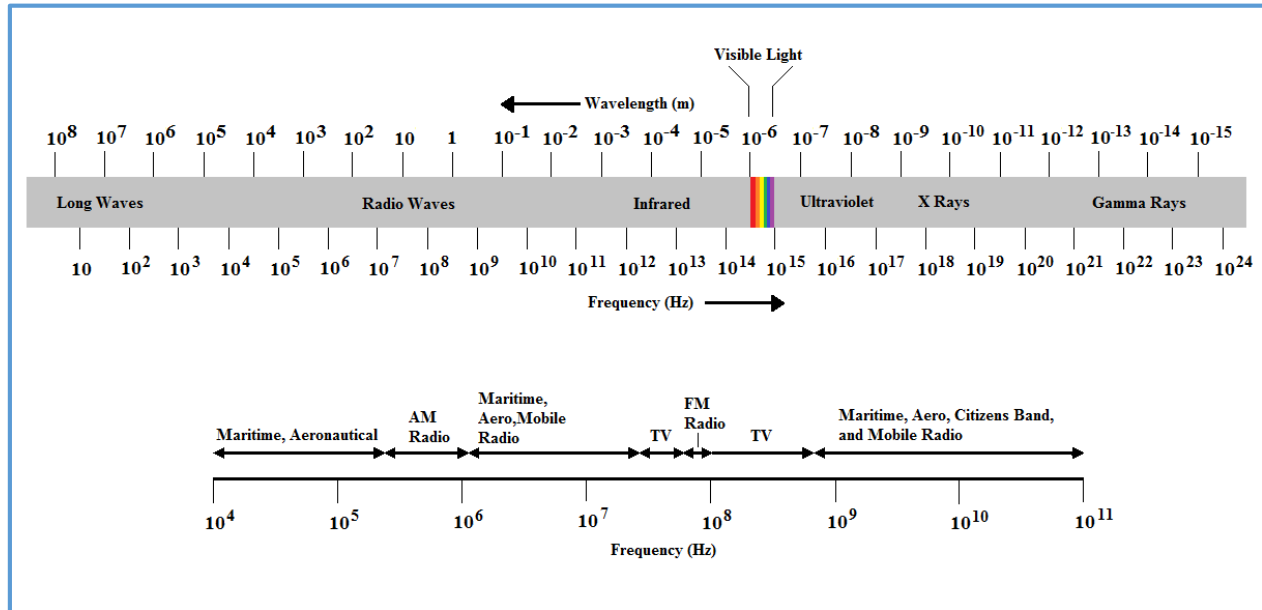

Figure 2-1: The full electromagnetic spectrum and the RF band.
**Figure 2-1** illustrates the full electromagnetic spectrum and the RF band.